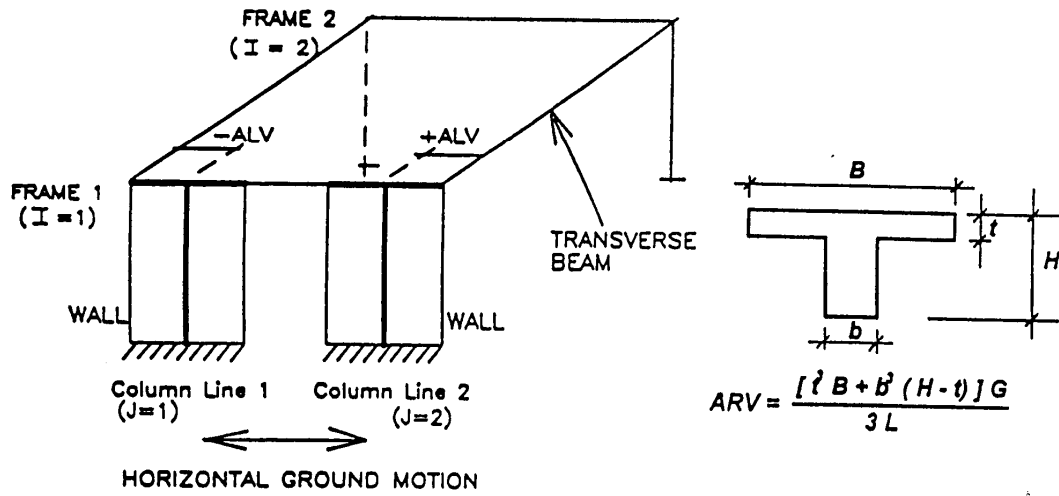

Fig. A-14 Transverse Beam Input
**SET H: TRANSVERSE BEAM PROPERTIES SETS** (SEE FIGURE A-14)